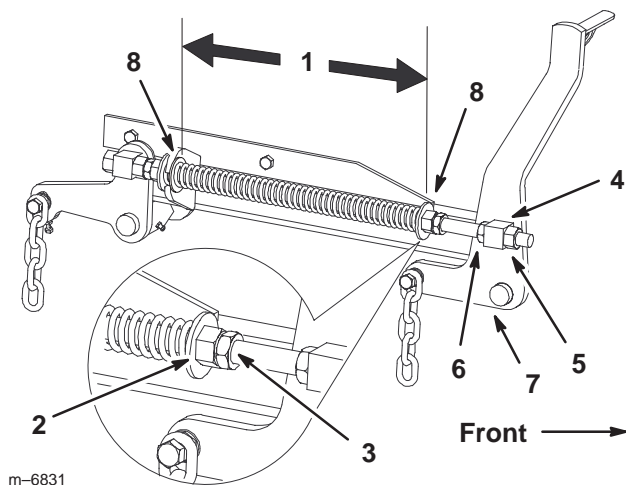

Figure 71
7. Loosen the front swivel jam nuts, at the front of the right and left swivels, approximately a 1/2 inch (13 mm) (Fig. 71).
8. Adjust the lift nuts on both the left and the right side of the machine to achieve **1/4 to 3/8 inch (6 to 10 mm) lower in front at A than in the rear at B** (Fig. 71).
2. Check the distance between the two large washers, it needs to be 10–1 1/2 inches (26.7 cm) (Fig. 71).
3. Adjust this distance, by loosening the spring jam nut and turning the nut in front of each spring (Fig. 71). Turning the nut clockwise will shorten the spring; counter-clockwise will lengthen the spring.
4. Lock the nut into position by tightening the spring jam nut (Fig. 71).